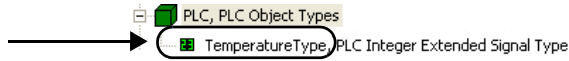

Figure 5. Created Integer Signal Type
7. Expand the PLC branch object to view the created signal type as shown in Figure 5.